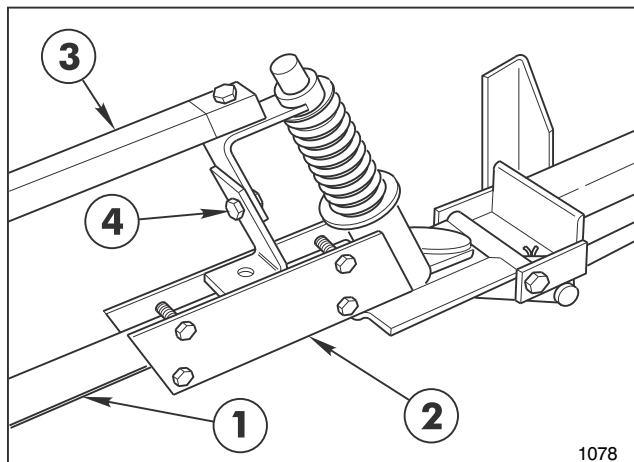

FIG. 14
12. Insert the plugged end of an Extension Boom Pipe into the Pivot Assembly and secure with four (4) 1/4" x 1-1/4" cap screws and lock nuts. See FIG. 14. Repeat on the opposite side to assemble the other Extension Boom.